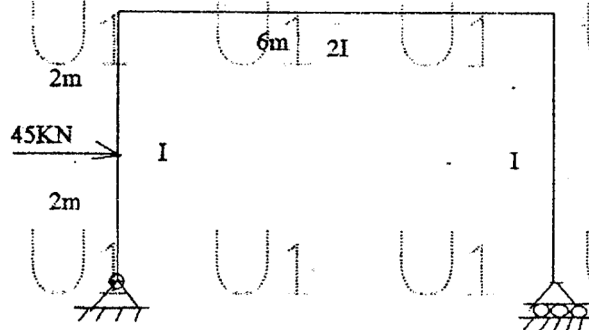

Figure: 3
4. Find the horizontal movement of the roller end of the portal frame shown in Figure 3. Take  $E=2 \times 10^5 \text{ N/mm}^2$  and  $I=3 \times 10^4 \text{ mm}^4$ . [10]